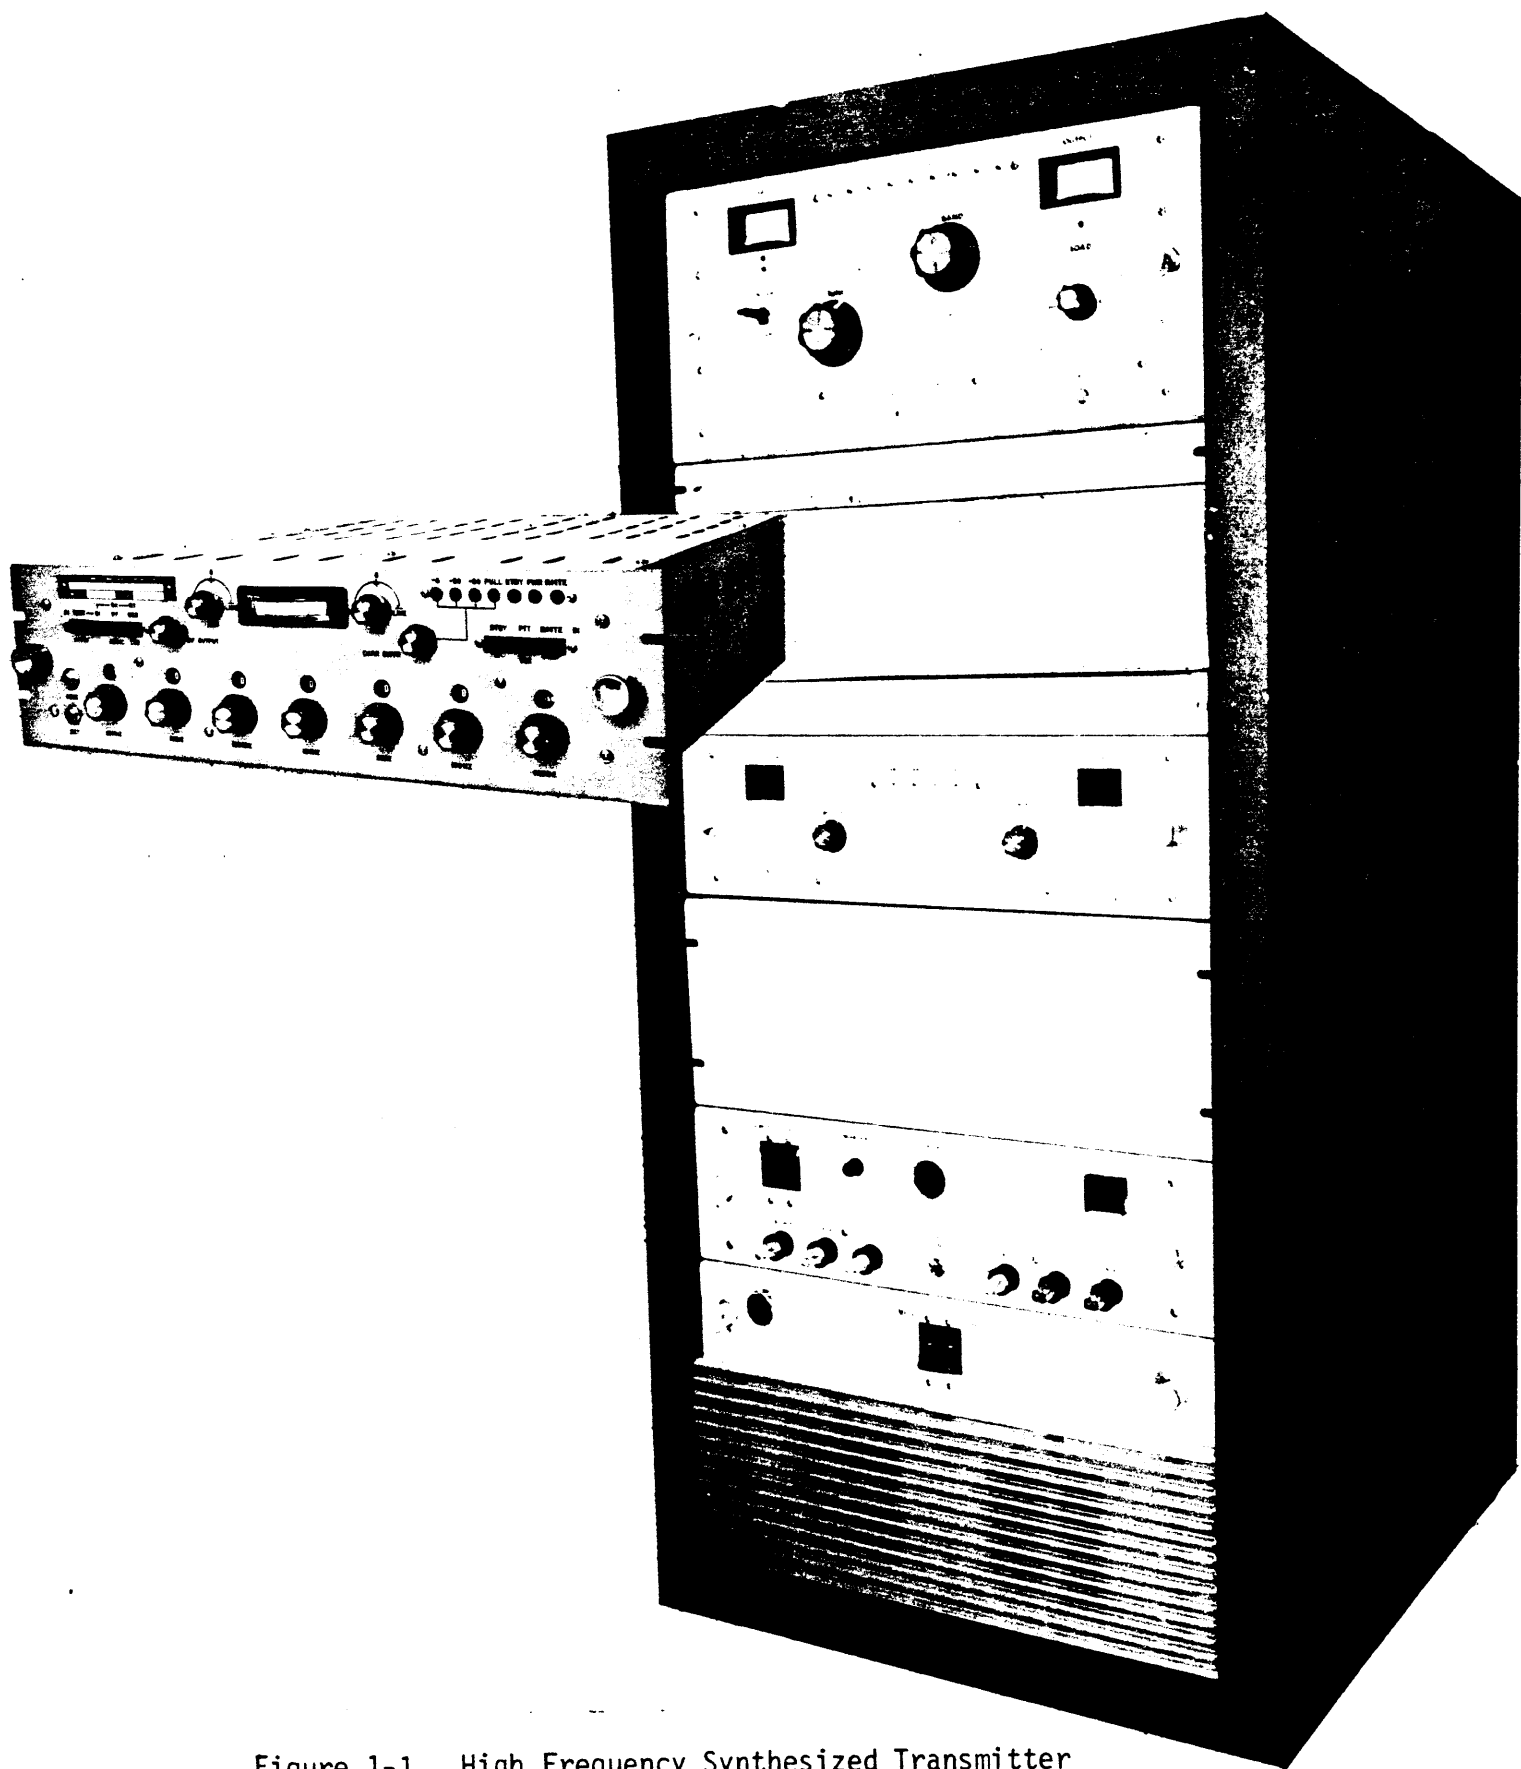

Figure 1-1. High Frequency Synthesized Transmitter
The HFTA-1KJ2 shown in figure 1-1, is an automated one kilowatt transmitter, designed and manufactured by The Technical Materiel Corporation, Mamaroneck, New York. The automated one kilowatt transmitter HFTA-1KJ2 hereinafter referred to as the transmitter, consists of a solid state, multi-mode, exciter MMX(A)-2, used in conjunction with a high frequency linear power amplifier HFLA-1K. The exciter is capable of providing CW (carrier wave), AM (amplitude modulation), SSB (single sideband) including AME (amplitude modulation equivalent), ISB (independent sideband), FSK (frequency shift keying) and FAX (facsimile) modes of operation. The linear power amplifier amplifies the exciter output to provide 1 kilowatt peak envelope power or average power throughout the frequency range of 2.0 MHz to 30 MHz.
As shown in figures 1-1 and 1-2, the transmitter consists of a single equipment rack, which houses all of the transmitter components. The HFLA-1K portion of the transmitter consists of four individual units: (1) TLAA-1K, a three stage linear power amplifier, (2) AP-151, a low voltage and bias power supply, (3) AP-152, a high voltage power supply, and (4) AX-5130, a unit which contains all of the control and sensing circuitry for automatic tuning of the transmitter.